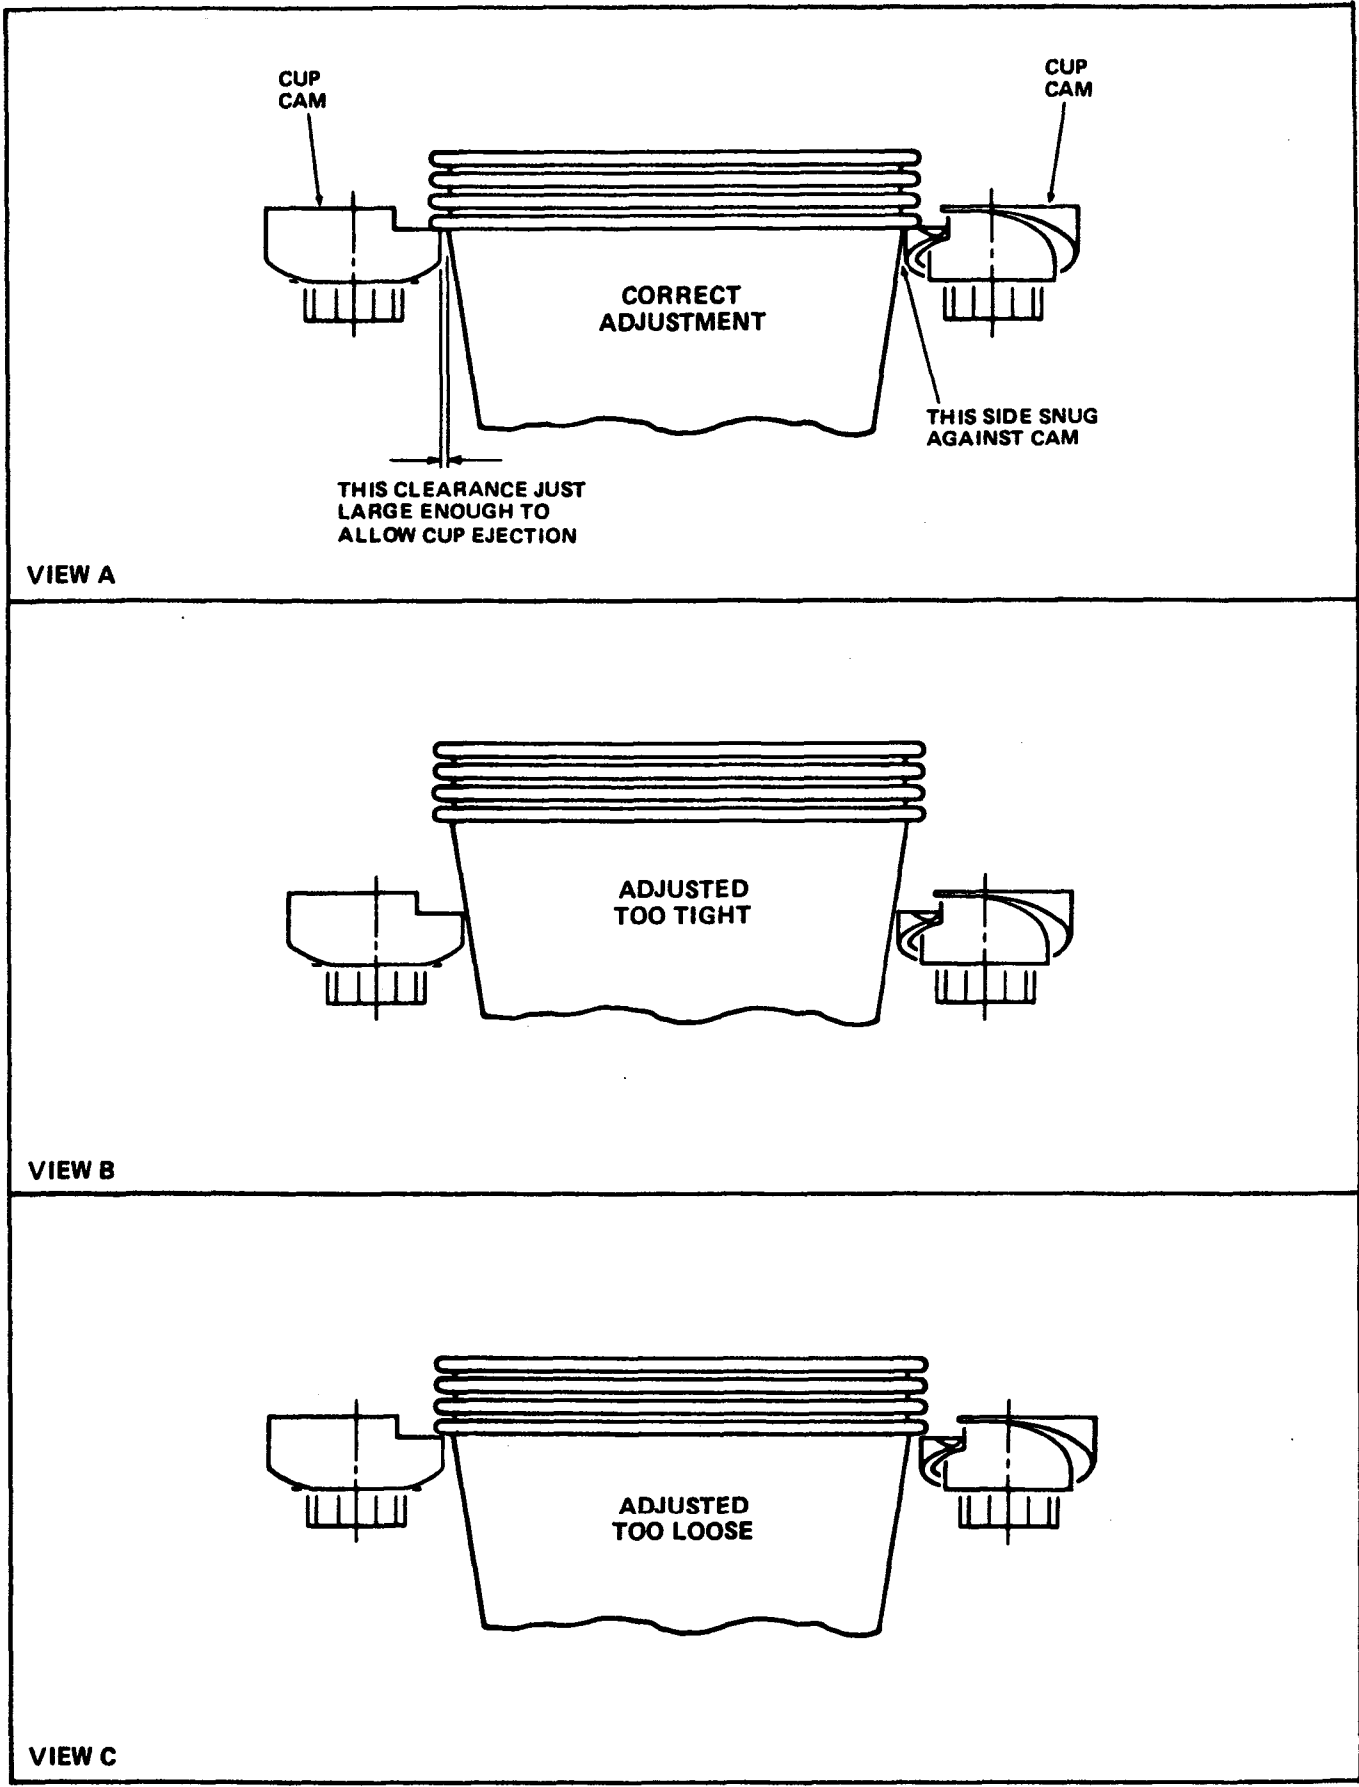

Figure 3-7. Sample Cup Positions
*Check the position of the lip and upper side of the cup in relation to the cams in the Cup Drop Ring. Notice the three examples in Figure 3-7. When adjustment is necessary, perform the appropriate adjustment procedure that follows.*
3. Hold the cups snug against the cams on the right half of the ring and move the Adjusting Arm until the ring is adjusted correctly as shown in Figure 3-7 and 3-8.